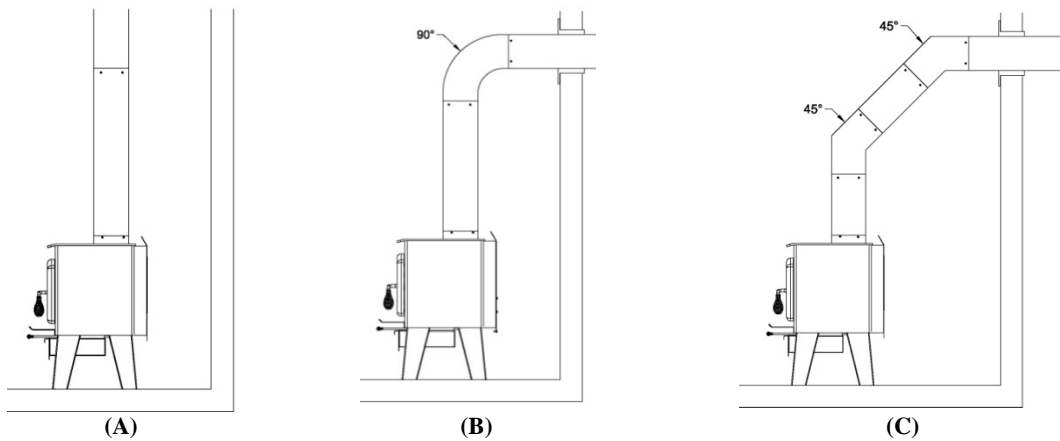

FIGURE 3.4 Use of elbows
- The assembly should be as short and direct as possible between the stove and chimney (See figure 3.4 (A)). Use of two 45 degree elbows (See figure 3.4 (C)) is often preferable to a single 90 degree elbow (See figure 3.4 (B)) because less turbulence is created in the exhaust flow and they result in less horizontal run.